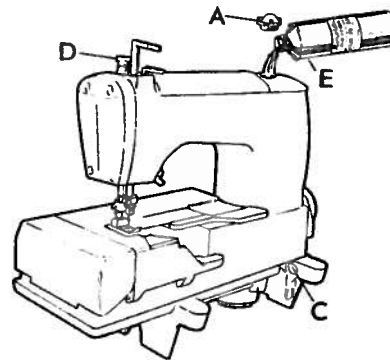

fig. 2
c) Filling the oil basin (fig. 2)